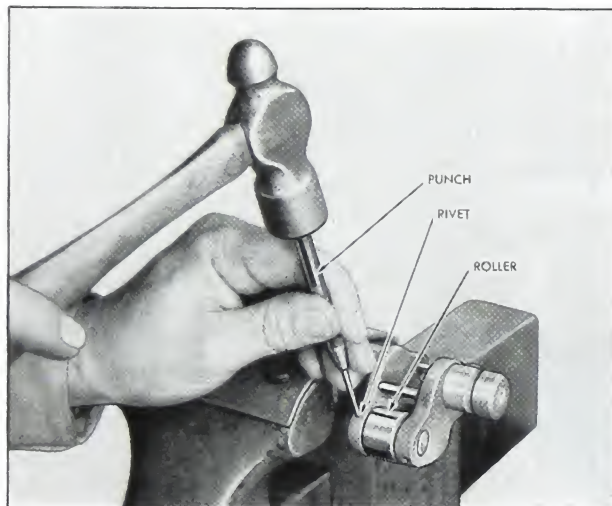

Fig. 5-43. Removing rivet from roller pin
5. Mount the cam rocker lever in a vise and drive out the roller pin with a small punch as shown in Fig. 5-43.